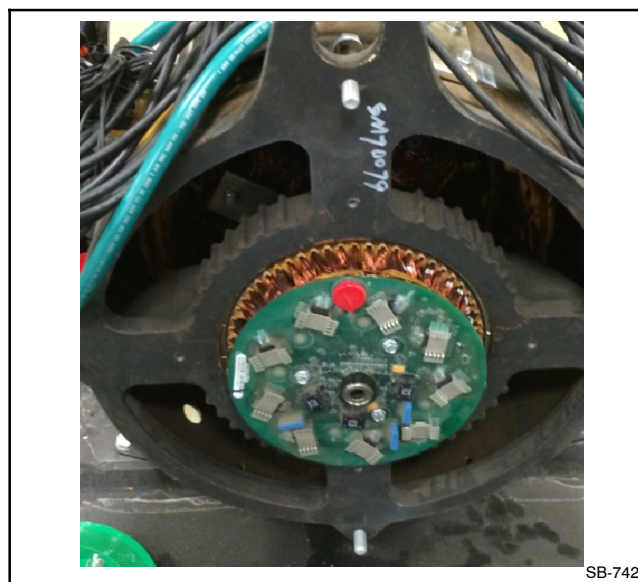

Figure 9 Mounting FRX Activator Board
- 4.2 Position the FRX activator leads around the FRX spacer to prevent pinching and push the FRX activator board against the FRX spacer while aligning the mounting holes. Mount the FRX activator board to the FRX spacer using three screws and torque to 1.3 Nm (12 in. lb.). See Figure 9. Install ball bearing X-758-19 to center retainer cup of the FRX activator board.